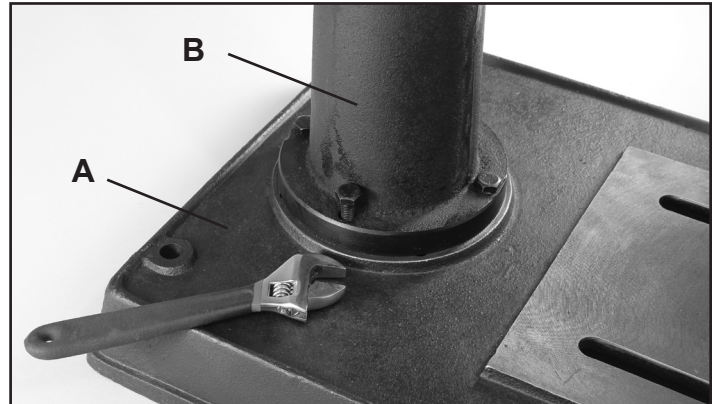

FIG. 1
1. Place the Base (Part #1A, Figure 1, A) on a level floor where the machine will be used. FIG. 1.